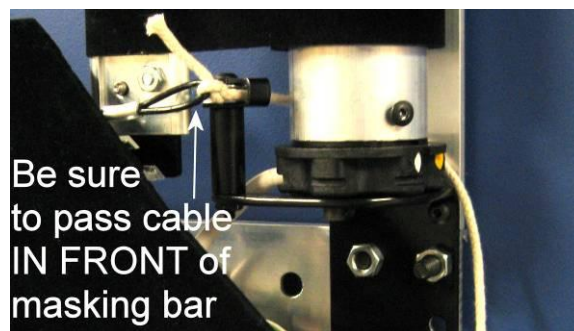

Figure 15
Step 16 – Attach control cables to motors. Take the end of one of the leader-strings coming through the cable-guide-bracket attached to the pulley, and tie it firmly to the control cable loop. Be sure to pass cable IN FRONT OF masking bar (Figure 15).